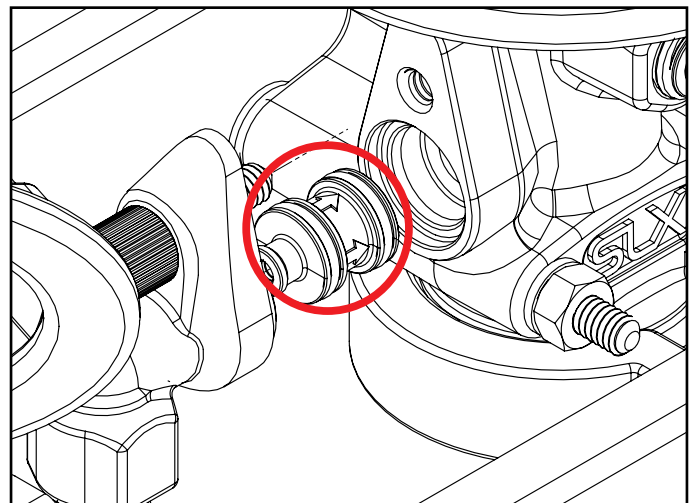

Fig. 10.2: SLX Check Valve (correct orientation)
5. The check valve will be seated either inside of the elbow or the body. Grab it and pull to remove. [Fig 10.2]